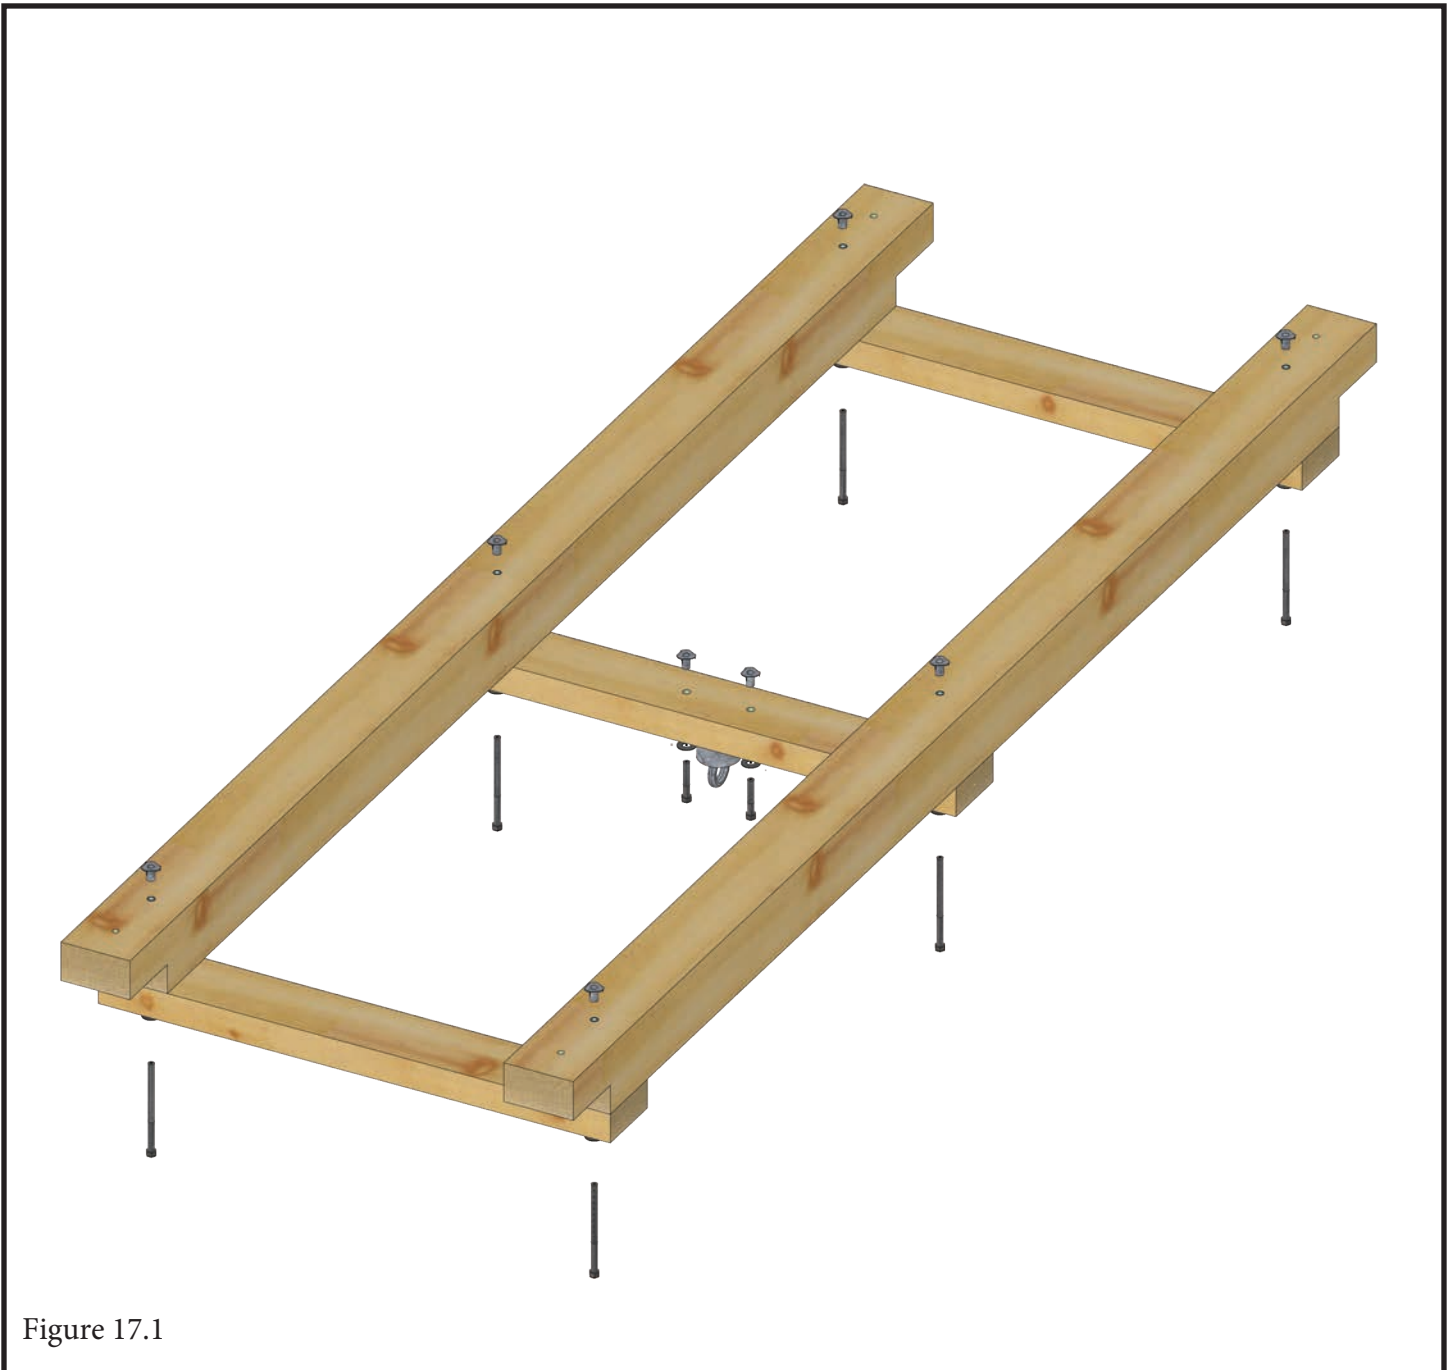

Figure 17.1
17.1 Fasten GW Deck Supports (2) to Bridge Supports with 5/16 x 4-1/2 Hex Bolts and 5/16 washer into T-Nut as shown in Figure 17.1.
17.2 Fasten GW Tire Support to Bridge Supports with 5/16 x 4-1/2 Hex Bolts and 5/16 washer into T-Nut as shown in Figure 17.1.
17.3 Fasten Tire Swivel to GW Tire Support with 5/16 x 1-3/4 Hex Bolts and 5/16 washer into T-Nut as shown in Figure 17.1. Snap spring clip.